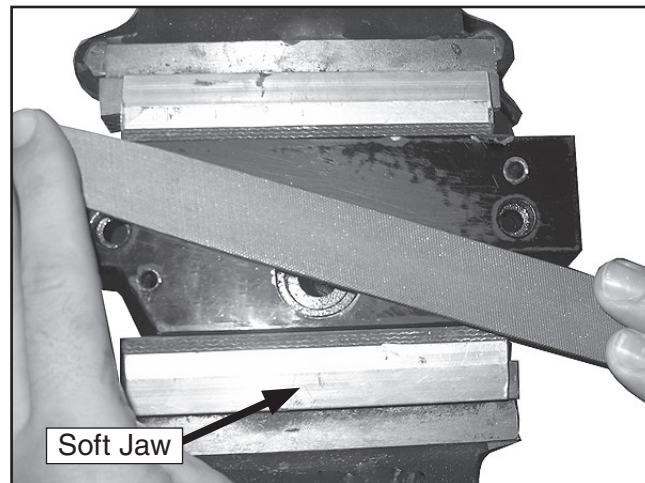

Figure 10. End plate surface preparation.
15. Using soft jaws, secure the end plate in a vise with the painted surface facing up (**Figure 10**).